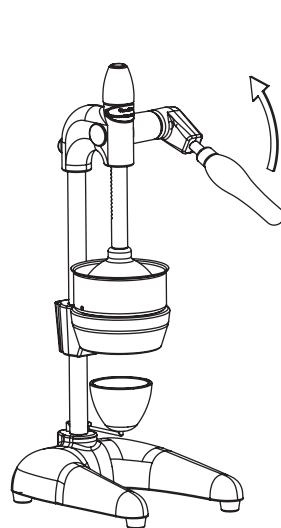
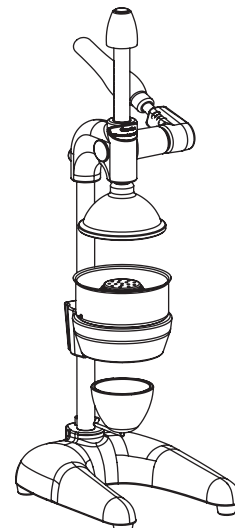

Figure 1
Figure 2
Turn the Arm (09) of your product 1,5 tour around in clockwise (**Figure1**) to create distance between the Strainer (18-45) and the Upper Press (40-51) enough to put the cut fruit in. (**Figure 2**)